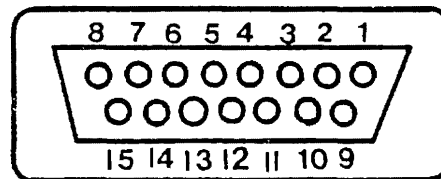

Figure 6-3. Cable Connector Pins
- 3) To check the switches you must connect the leads of the ohmmeter to the pin numbers given below. Without the button depressed it should show infinite resistance (open circuit). With the button depressed it should show less than 50K ohms resistance. Be sure to press the two fire buttons (left and right sides) separately to make sure they both work (see Figure 6-3 on page 6-6 for pin locations).
Cable Connector Pins are numbered as shown in Figure 6-3.
- 3) To check the switches you must connect the leads of the Ohm meter to the pin numbers given below. Without the button depressed it should show infinite resistance (open circuit). With the button depressed it should show less than 50K ohms resistance. Be sure to press the two fire buttons (left and right side) separately to make sure they both work (See figure 6-3 on Page 6-5 for pin locations).